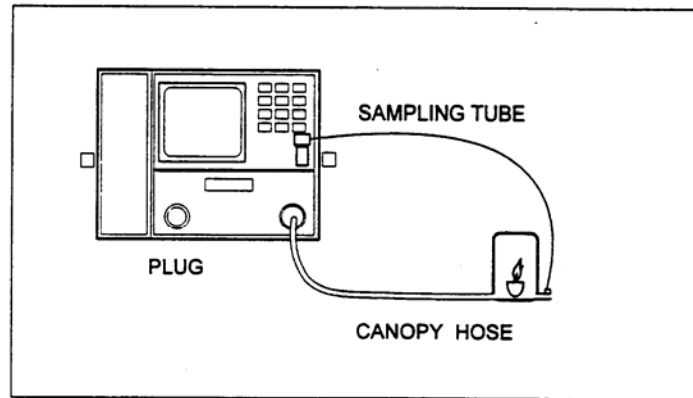

Figure 5-7 Alcohol Burning Test Setup
9. Connect the methanol burn kit as shown in figure 5-7 on page 5-9 of Deltrac II operations manual chapter. See below.